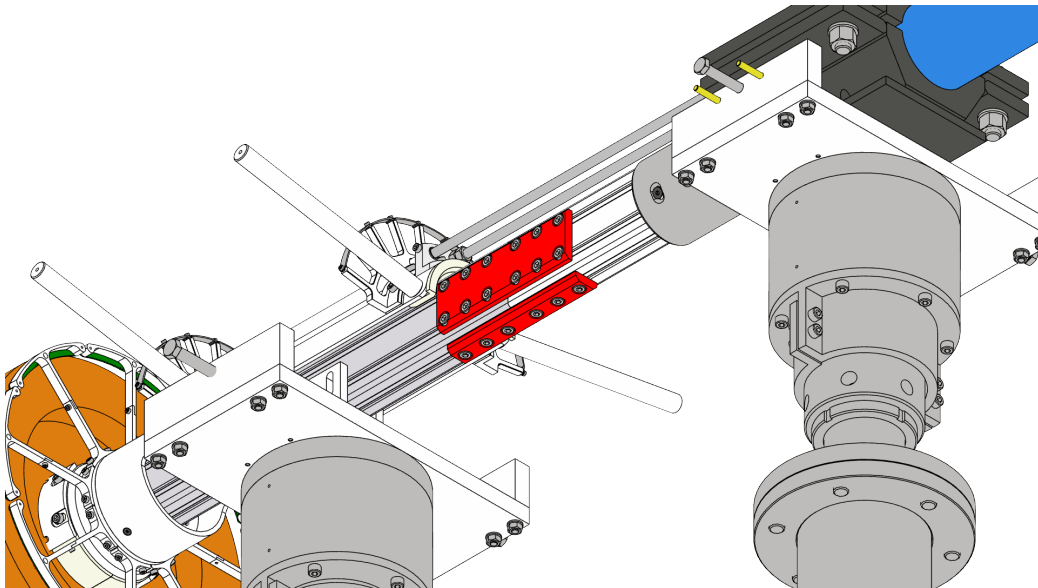
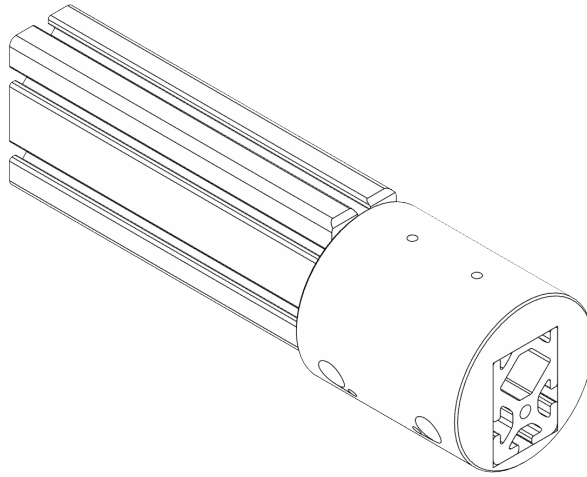

Figure 2.4: Rail coupling plates.
Figure 2.5: Coupling implement.
1. ☐ Make sure that the 3 plates (fig. 2.4) used for joining the coupling implement (fig. 2.5) and the aluminum profile are inserted into the coupling implement.
- 2. ☐ Slide the plates across the joint so that it is positioned in the middle of the plates as of fig. 2.4.